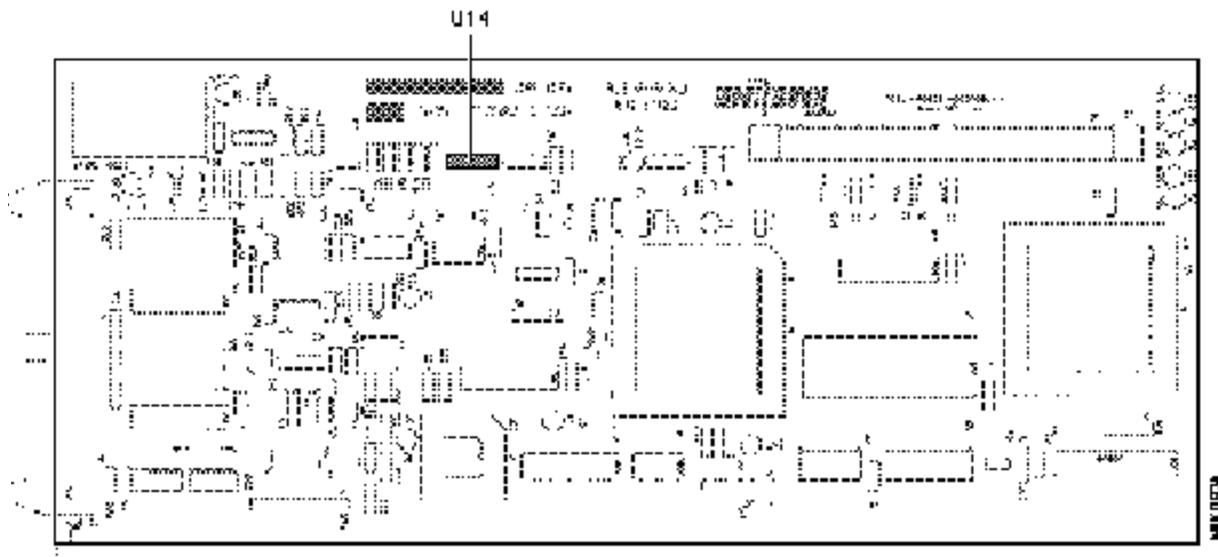

Figure 3. Component Location
5. On the M3 Option Card locate U14. (See Figure 3) If the IC is made by National, SGS Thompson, Phillips or Signetics, contact TimeLine for an RMA number. This component will need to be replaced.